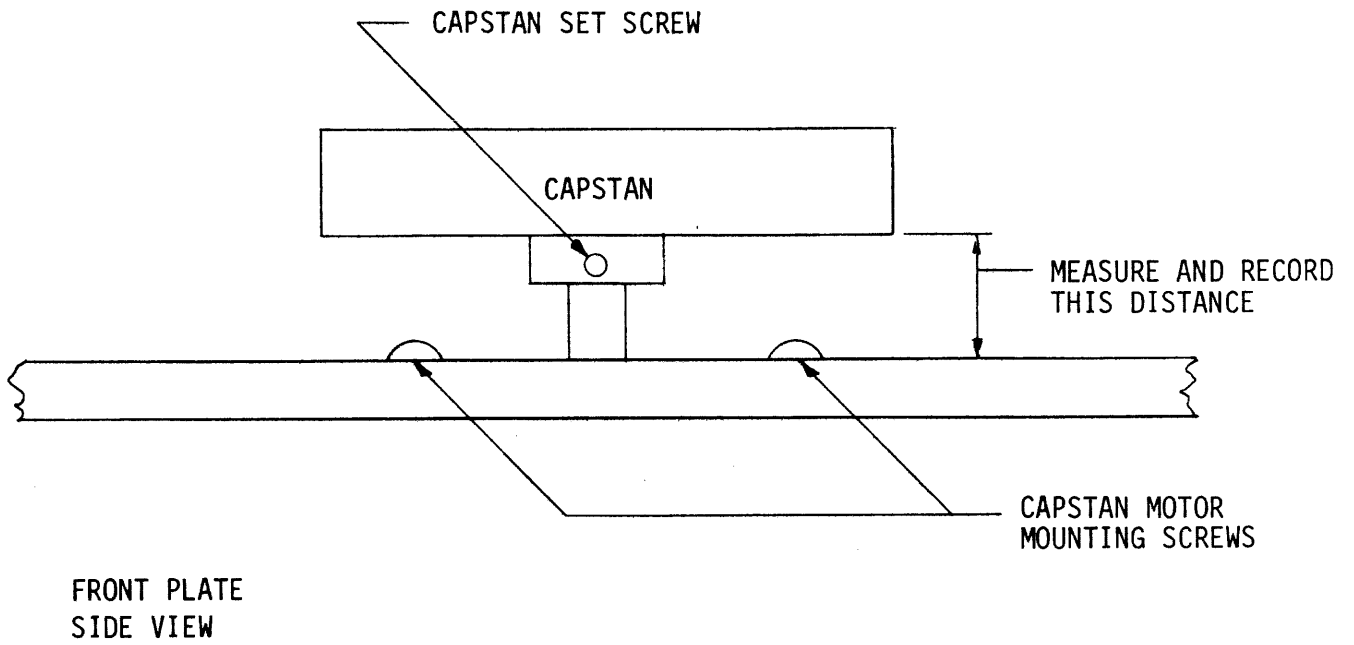

Figure 9-1, CAPSTAN HEIGHT MEASUREMENT
- 2) Measure and record for future use the distance between the capstan and the front plate. Refer to figure 9-1.